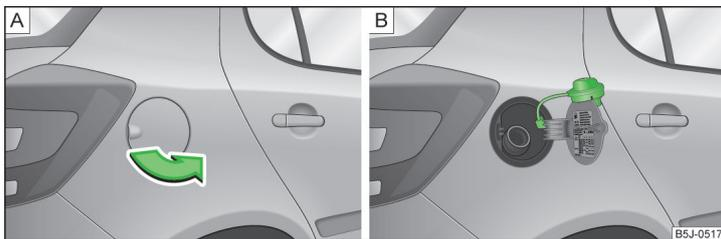

Fig. 123 Open tank lid / tank cap
The correct grades of fuel for your vehicle are stated on a sticker affixed to the inside of the fuel filler flap » Fig. 123 on page 136 - .
- > Open the fuel filler flap with one hand » Fig. 123 - A.
- > Unscrew the filler cap by turning it anticlockwise and clip the cap on the top of the fuel filler flap » Fig. 123 - B.